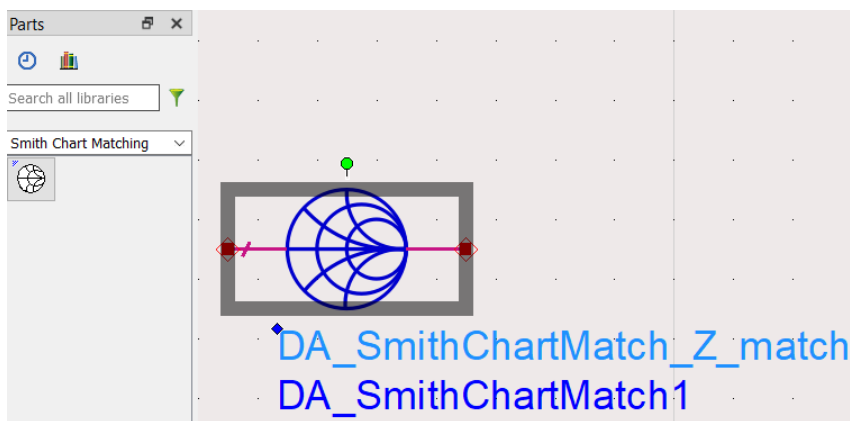

Figure 19. Smith Chart Matching Network component
4. Go back to the schematic window. From the palette, insert the **Smith Chart Matching Network** component, as shown in Figure 19. Click **OK** when a message dialog appears – you can ignore it. This component is needed in order to use the Smith Chart Utility.